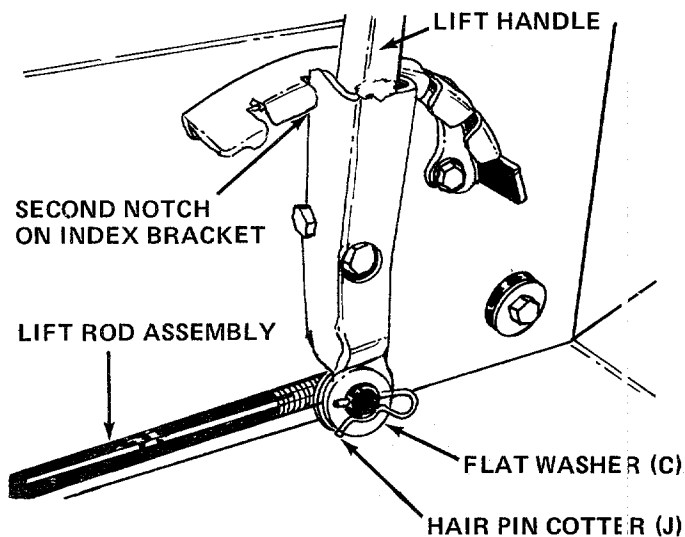

FIGURE 16
25. Move the lift lever on the tractor to the second notch on the index bracket as shown in figure 16.
26. Thread the adjustment ferrule onto the lift rod assembly until it lines up with the bottom hole in the lift handle. Secure ferrule to lift handle using flat washer (C) and hairpin cotter (J). See figure 16.